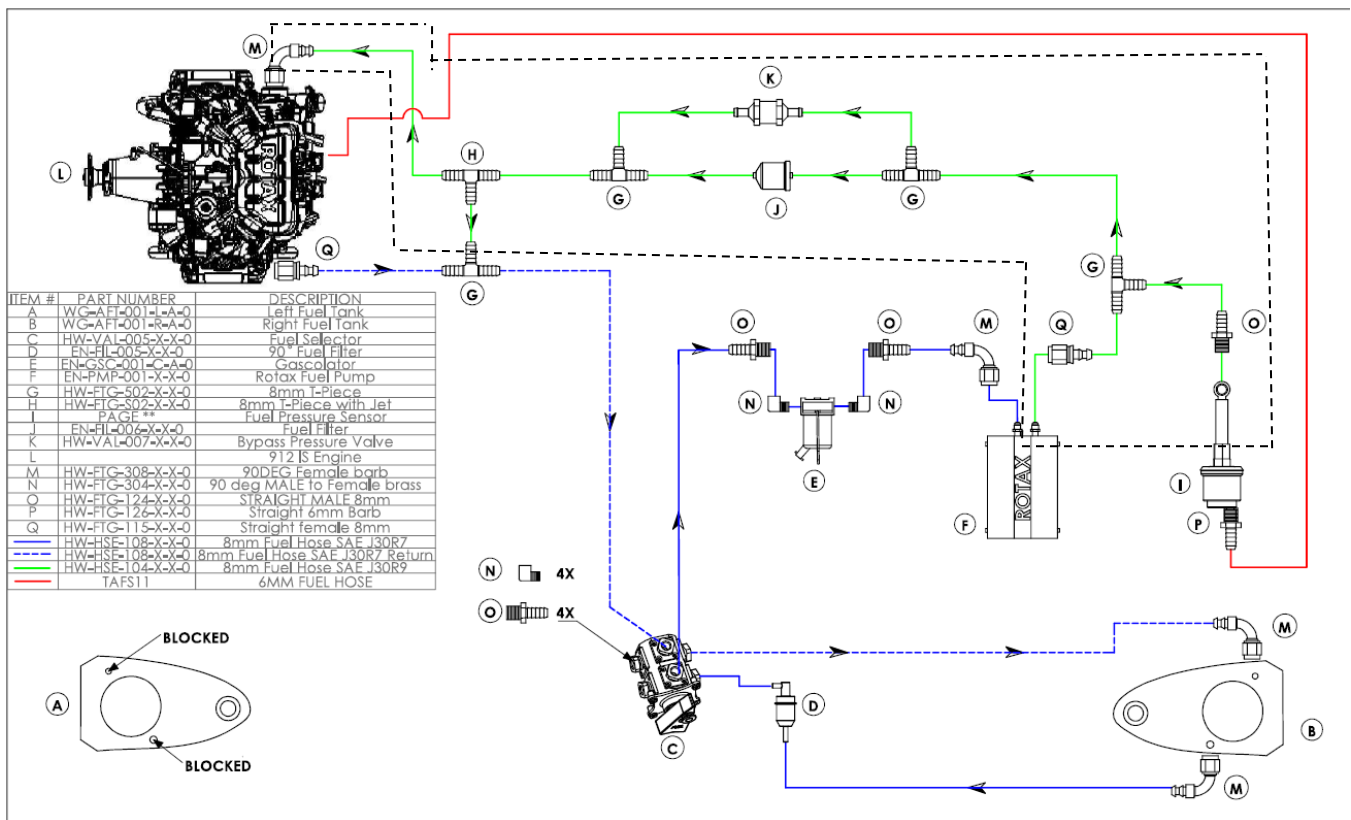
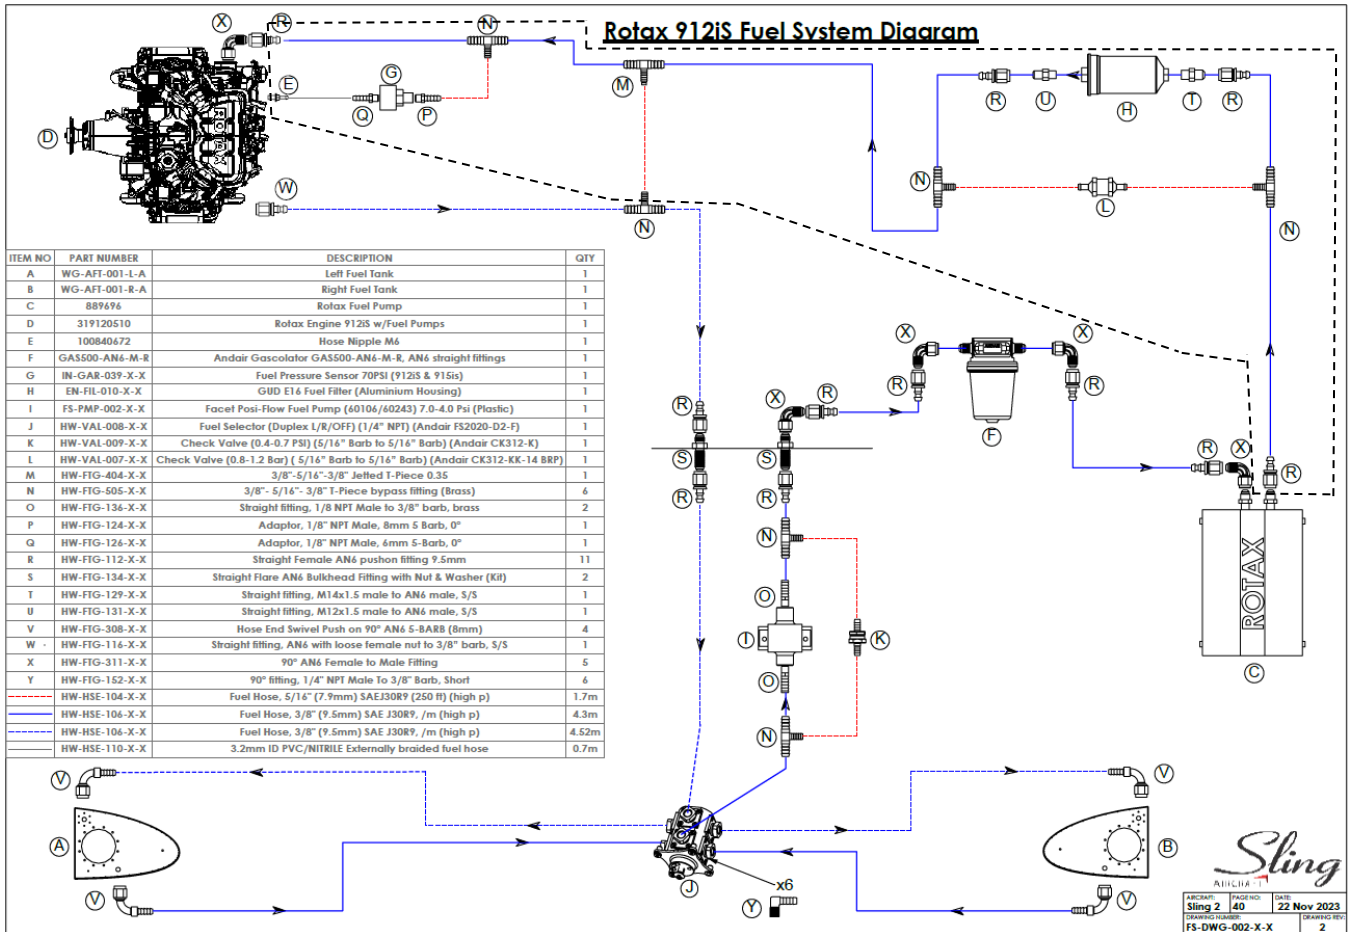

Figure 4: 912 iS Fuel System Diagram
Figure 5: 912 iS Fuel System Diagram
1 Only required if you have the fuel system layout that corresponds to Figure 4.
There are two fuel system configurations applicable to the Sling 2 and Sling LSA. These can be seen in Figure 4 and Figure 5.
With reference to Figure 4 and Figure 5, all the fuel lines bounded within the dashed line “----” must be inspected and replaced should they be of the sub-standard type of fuel hose. It must be replaced with the correct fuel hose as described in Section 2.
- Step 2: The heat sleeve around the fuel hose will be fixed in place using either locking wire or metal cable ties. Once the cowling has been removed, used the side cutters to remove these so that the heat sleeve can be moved to inspect the hose underneath. Refer to Figure 6 for an example of how the heat sleeve is attached using the cable ties. Please note, Figure 6 is just for reference purposes, all the fuel lines (as shown in Figure 4 and Figure 5.) must be checked.